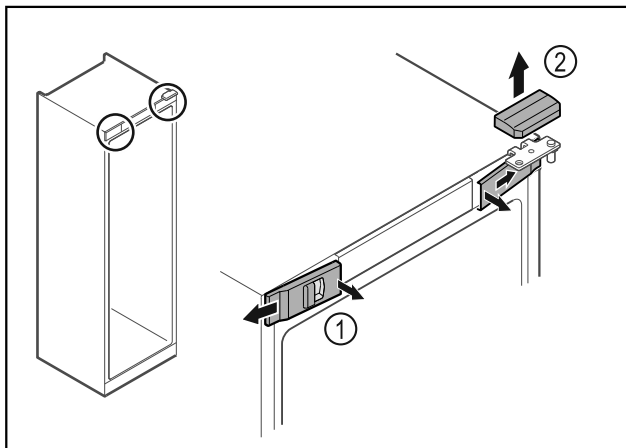

Fig. 10
- Unlatch the front covers Fig. 10 (1) on the inside and remove them sideways.
- Lift off the upper cover Fig. 10 (2).